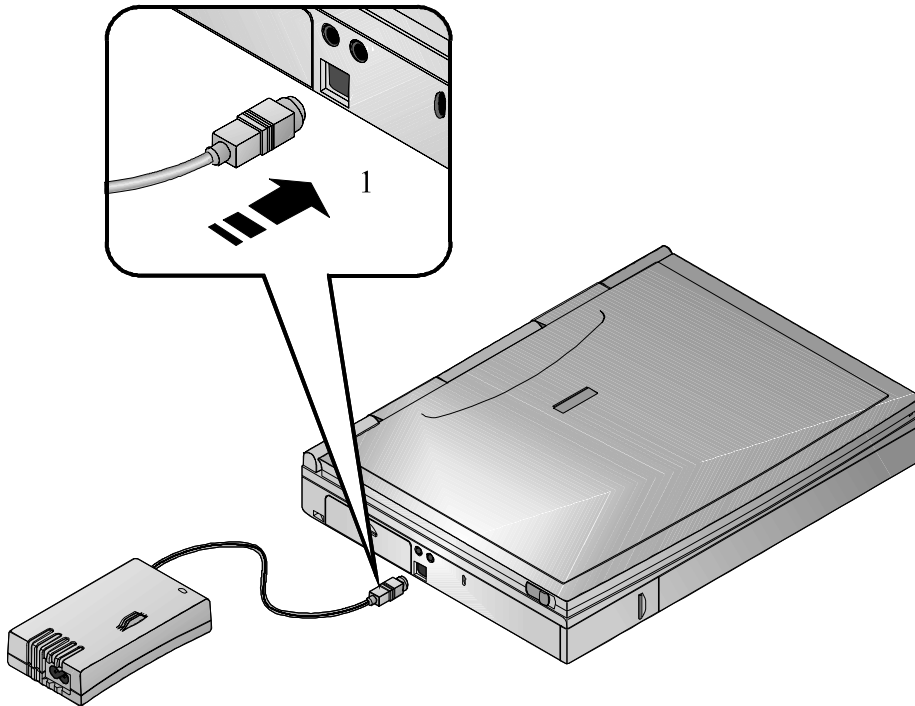
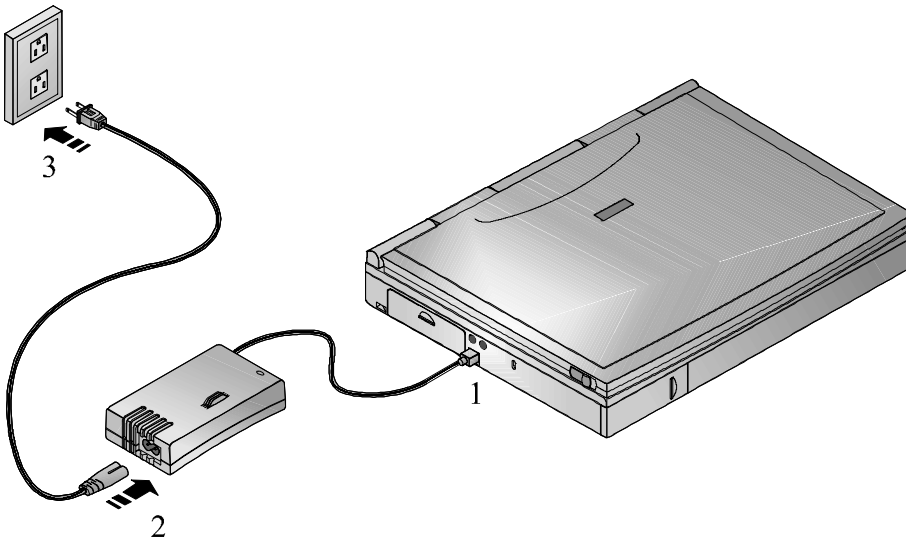

Figure 1-5: AC Adapter to Notebook Connection
Figure 1-6: The Notebook to AC Power Connection
To power the notebook by using the supplied Universal AC Adapter, refer to Figure 1-5, Figure 1-6 and the following instructions:
1. Connect the Universal AC Adapter to this port (Figure 1-5, step 1).
2. Connect the power cord to the port on the AC Adapter(Figure 1-6, step 2).
3. Plug the power cord into an electrical outlet. The green LED on the AC Adapter will light (Figure 1-6, step 3).